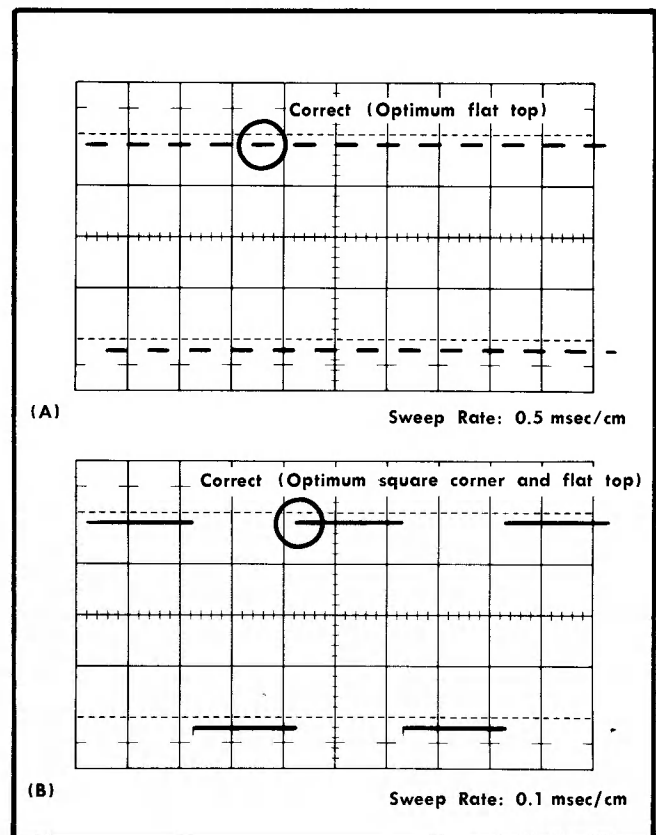

Fig. 6-3. Waveforms of a properly compensated attenuator.
g. CHECK—The attenuator compensation for rolloff or overshoot at all settings of the Channel 1 VOLTS/CM switch (See Fig. 6-3). Use .5 ms and .1 ms sweep rates to examine the waveform. (Adjust the output of the generator to maintain a 4 cm display except for the 20 VOLTS/CM switch position where the generator drive is limited to about 3 cm. Refer to Table 6-2 for accessory use in checking compensation).